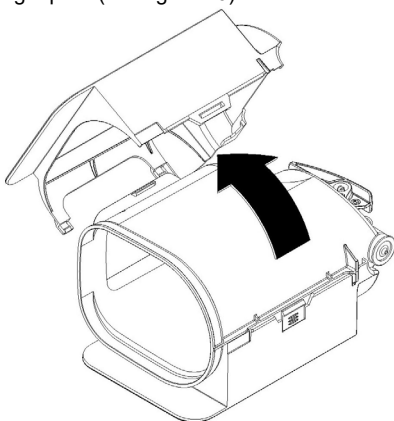

figure 10
- 2 Remove the left part of the recover and then the right part. (see figure 10).